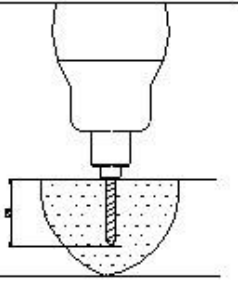

Fig.2
4. Assemble the washers and nuts on the anchors then tap into each hole with a hammer until the washer rests against the baseplate. Be sure that if shimming is required that enough threads are left exposed. (See Fig. 2)